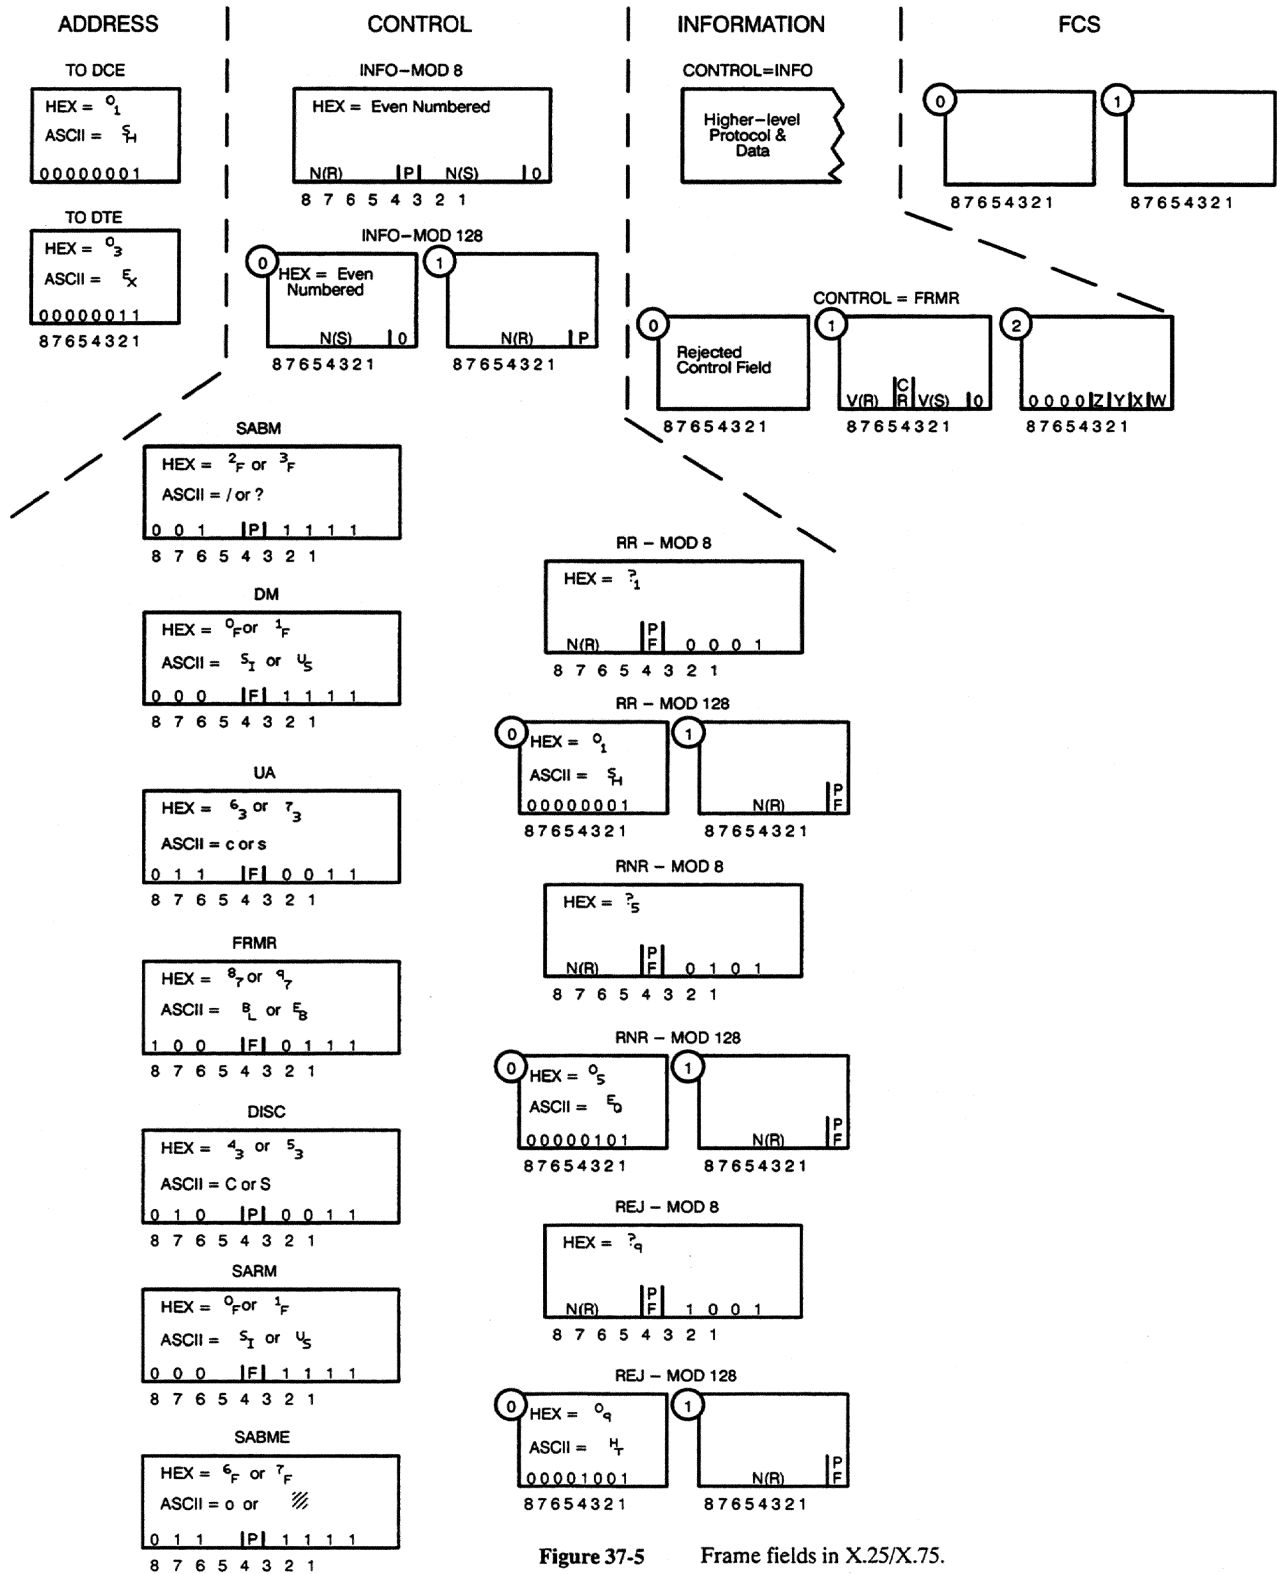

Figure 37-5 Frame fields in X.25/X.75.
MOD 8 uses sequence numbers 0–7. MOD 128 adds an extra byte to the control field in INFO, RR, RNR, REJ, and SREJ frames. See Figure 37-5. This extra byte allows sequence numbers in a range of 0–127.
2. *Address.* The address octet (see Figure 37-5) is given in the **ADDR** column, with its two hexadecimal quartets presented as full-size alphanumerics. The address may be $^{\circ}_1$ or $^{\circ}_3$ in single-link operation.
3. *Type.* The mnemonic (abbreviated) names for eleven frame types as they appear in the **TYPE** column of the protocol trace are shown in Figure 37-5 under "CONTROL." The control field, therefore, indicates the frame type. If a control octet does not fit any of the patterns in the figure, the frame is listed in the **TYPE** column as UNKWN followed by the hexadecimal value of the control byte: UNKWN=F3.
4. *N(R) and N(S).* One column on the frame-level trace is devoted to N(R) values, and one column to N(S). The frame types that include N(R) or N(S) fields in their control fields are indicated in Figure 37-5. N(R) and N(S) occupy three bits each in modulo 8, seven bits each in modulo 128.
5. *P and F.* The status of the poll or the final bit is given in the P/F column. Whether this bit is the P or F bit is indicated for most frame types in Figure 37-5 (under "CONTROL").
1. *Info frames.* INFO frames differ for MOD 8 and MOD 128 numbering schemes. (See Figure 37-5.) For spreadsheet conditions to match I–frames accurately, the correct numbering system (“**Mode of Operation**”) should be selected on the Frame Level Setup screen.
2. *Supervisory frames.* The four supervisory–frame types that can be searched for on the data leads are RR (Receive Ready), RNR (Receive Not Ready), REJECT, and SREJ (Selective Reject). These frames always contain N(R) fields (see Figure 37-5) and serve mainly to acknowledge or reject INFO frames.